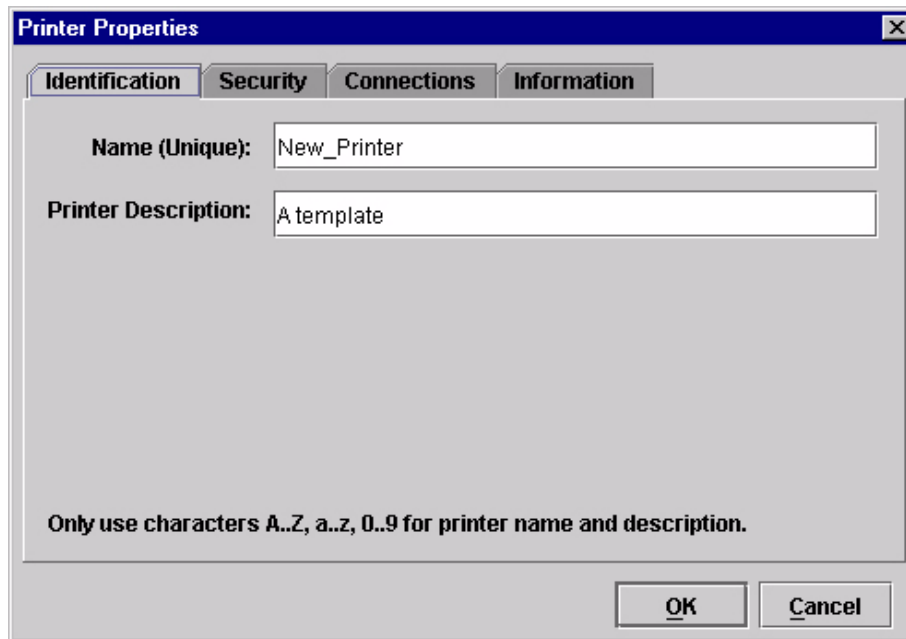

Figure 2. Printer Properties: Identification Tab
3. Double-click **New_Printer (A template)**. The Printer Properties dialog box opens. See Figure 2.